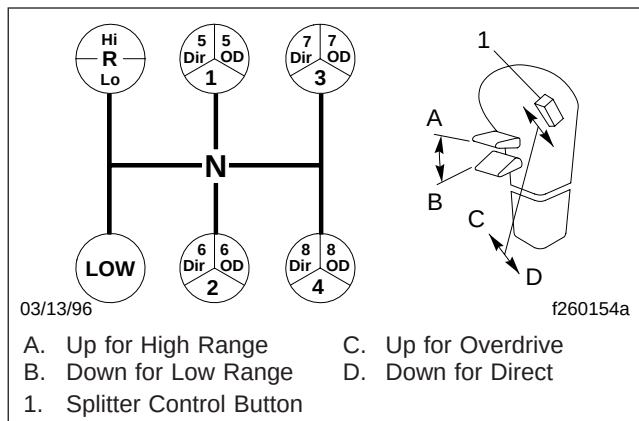

Fig. 8.18, Meritor 13-Speed Transmission Shift Pattern
Meritor 13-speed transmissions have thirteen forward speeds and two reverse speeds. Each transmission consists of a 5-speed front section, and a 3-speed auxiliary section. The auxiliary section contains low- and high-range ratios, plus, an overdrive splitter gear. See Fig. 8.18.
4. While in 5th direct, and ready for the next downshift, push the range selection lever down into low range. Double-clutch through neutral, and shift into 4th gear. See Fig. 8.18. As the shift lever passes through neutral, the transmission will automatically shift from high range to low range.